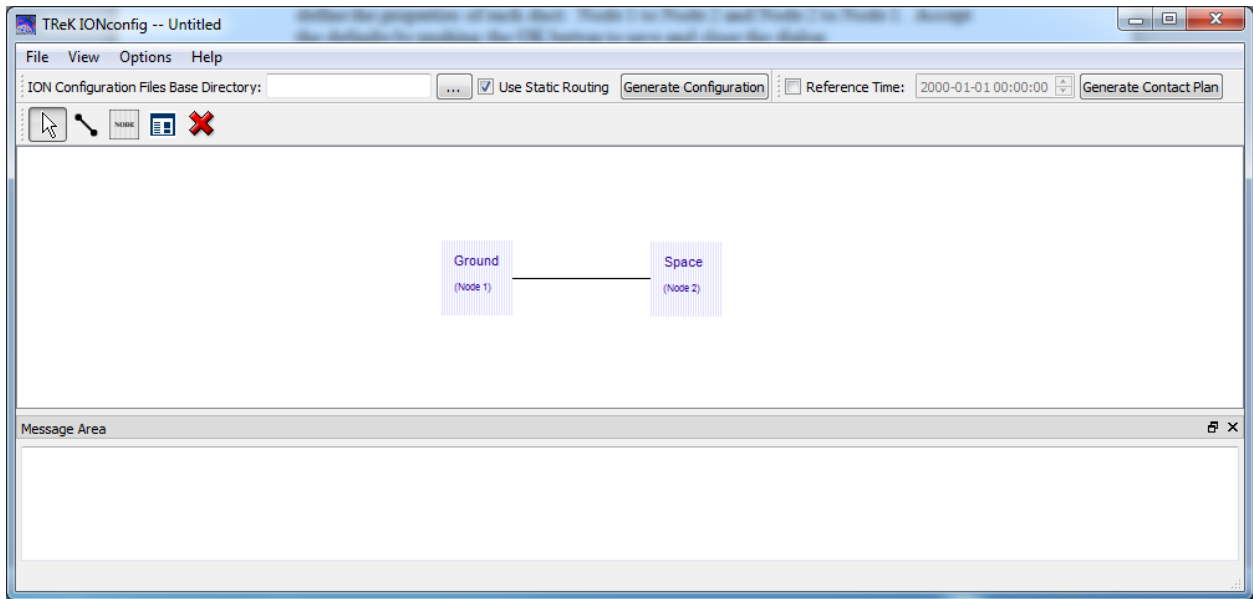

Figure 10 Two Nodes with Valid Data
4. Use the left mouse button to double click on the Node on the right side of the diagram. This will display the Modify Node dialog for node 2. Enter an IP address for node 2 and Space for the Node Name. Push the OK button to save and close the dialog. The diagram should look like the one in Figure 10. Notice that once a node has valid data the node will be displayed with a different color. The Node Name is not required. But it can be handy to have node names.